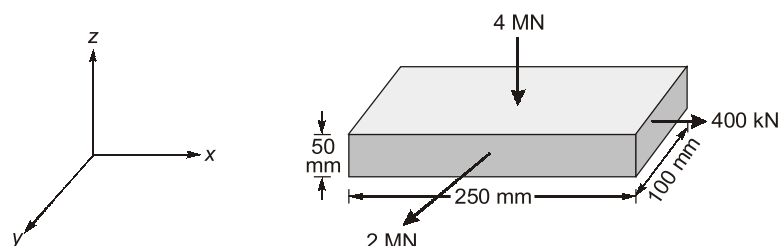

Fig. 1.1
**Q.1.2** A metallic bar  $250 \text{ mm} \times 100 \text{ mm} \times 50 \text{ mm}$  is loaded as shown in the figure 1.1. Work out the change in volume. What should be the change that should be made in the 4 MN load in order that there should be no change in the volume of the bar.